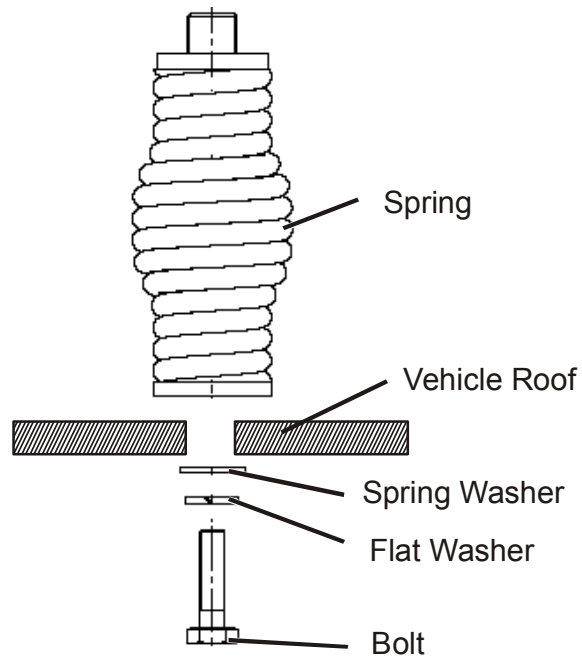

Figure 2-3. Grounding Head Bolt Installation
- g. Set the grounding head bolt to the vehicle roof using, spring washers, flat washers and spring or by welding (see Figure 2-3).